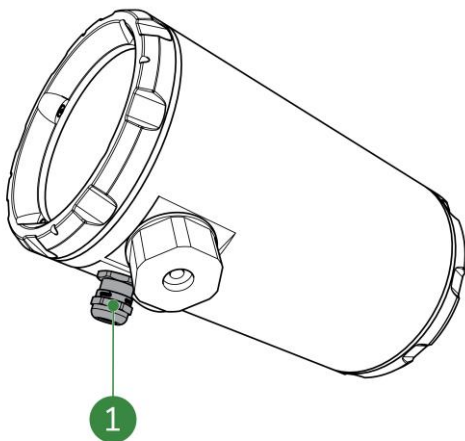

Figure 5-20: SDM ECO cable gland
THE CABLE GLAND (FIGURE 5-20, POS. 1) CAN ALSO BE REPLACED BY A BLIND PLUG (STANDARD: M16X1.5) IF THE ENTRY IS NOT USED.
13. Make use of the cable gland (Figure 5-20, pos. 1) to connect other cables if necessary.